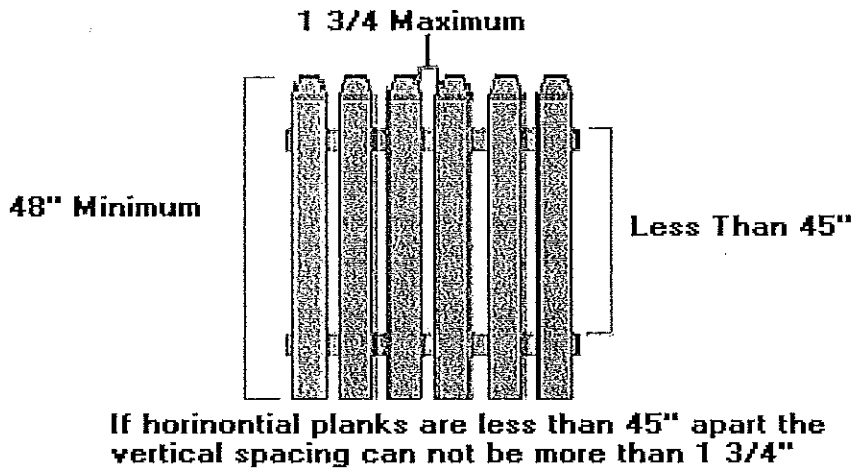

Figure 1
4. Where the barrier is composed of horizontal and vertical members and the distance between the tops of the horizontal members is less than 45 inches, the horizontal members shall be located on the swimming pool side of the fence. Spacing between vertical members shall not exceed 1- $\frac{3}{4}$ inches in width. Decorative cutouts shall not exceed 1- $\frac{3}{4}$ inches in width. (figure 1)